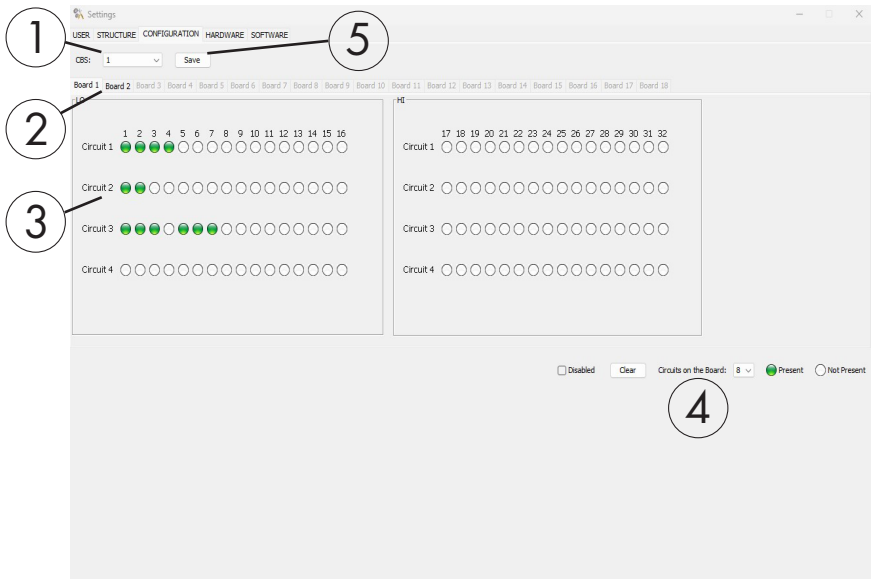

Figure 5. SETTINGS window, CONFIGURATION tab
1. Select the CBS (=CBU) which you wish to modify the Luminaire information for (No. 1 in Figure 5). If the configuration for CBS 1 is empty, re-select CBS 1 from the list. This will update the configuration data.
2. Select a circuit board (No. 2 in Figure 5).
3. In the luminaire table (No. 3 in Figure 5) you can now see the luminaires that are present, and those that are not. Clicking a present luminaire (green dot) will mark it as not present, and vice versa. Set the luminaire data, and repeat process to all required CBU's and Boards.
- When the settings are done, click the Save button (No. 5 in Figure 5) to save the data.